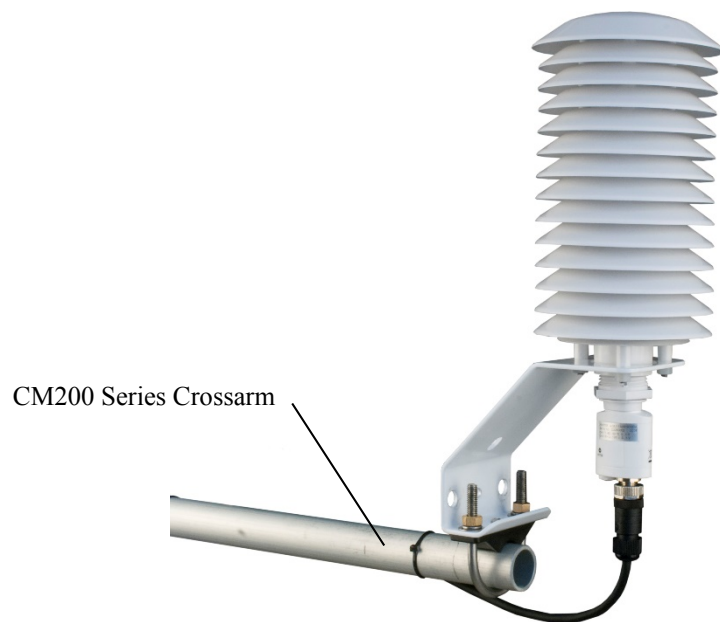

FIGURE 4-6. HMP155A and 14-plate radiation shield on a CM200-series crossarm
9. If using a CM200-series crossarm, mount the crossarm to the tripod or tower. Then place the 41005-5's U-bolt in the bottom holes and secure the 41005-5 to the crossarm by tightening the U-bolt nuts (see FIGURE 4-6).